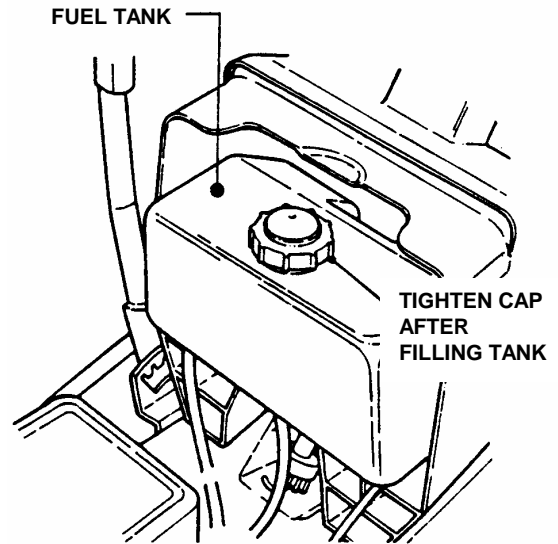

FIGURE 2.2
2.1.6. With engine "OFF" move the tractor outside and add fuel to the fuel tank. Securely tighten fuel cap after refueling. Refer to engine owner's manual for fuel specifications. See Figure 2.2.